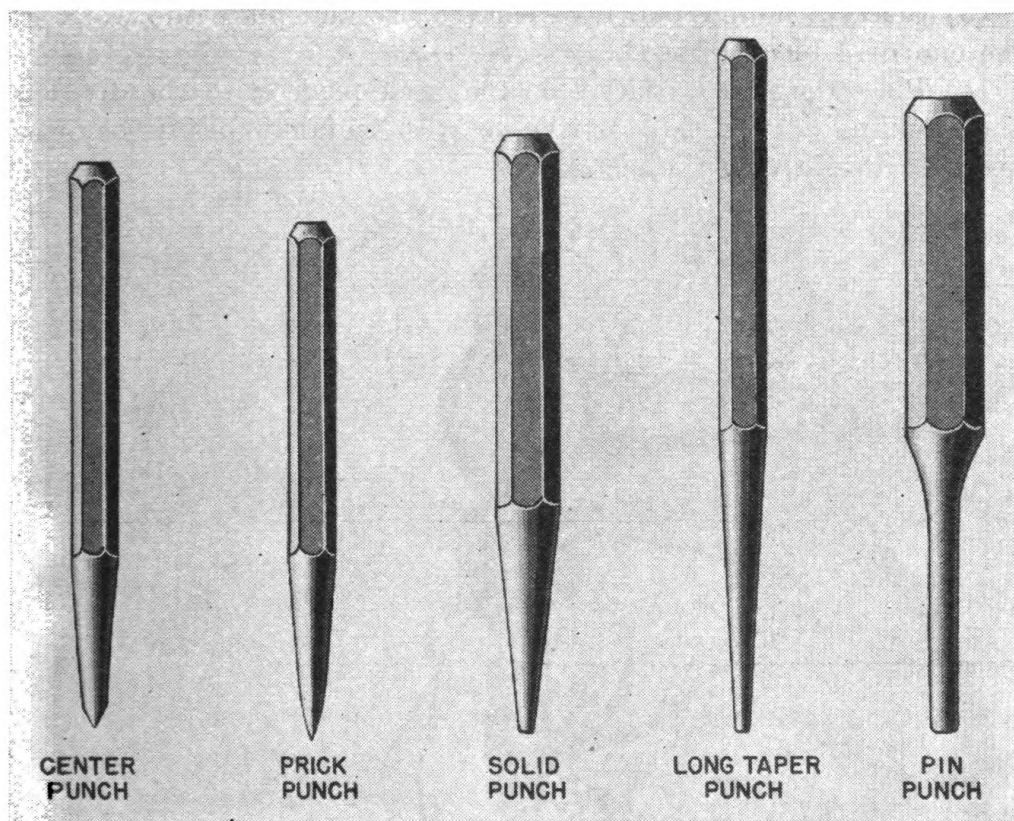

FIGURE 30.—Types of solid punches.
9. Punches and punching.—*a. General.*—Punches (fig. 30) are used to locate centers for drawing circles, to start holes for drilling, or to punch holes in metal sheets which are 24-gage or thinner. The two kinds of punches generally used are solid and hollow. Solid punches are classified according to the shape of their points: pin punches, taper punches, solid punches, prick punches, and center punches.